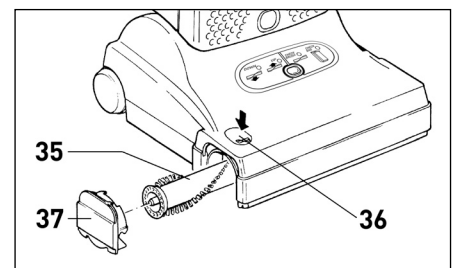

Figure 13
Changing the Brush Roller - Figure 13
The sealing strip (39) is located just behind the brush roller opening. The sealing strip seals the power head to hard floors to prevent kick-back of debris while vacuuming. To replace a worn sealing strip, push the release button, remove the side plate (36 and 37 in figure 13) and slide old strip out. Insert the new strip into the slot and slide into place.